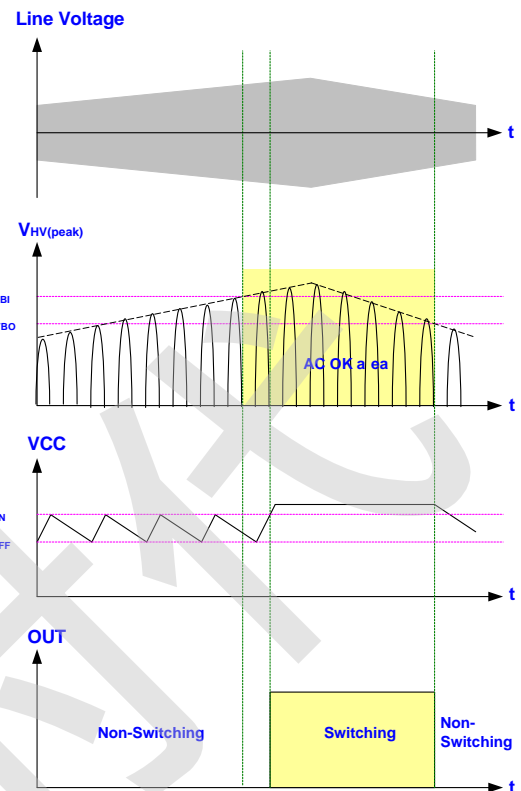

Fig. 11
The LD5763K3 features burn-in/out function on HV pin. As the built-in comparator detects the half wave rectify line voltage condition, it will shut off the controller to prevent from any damage. Fig. 11 shows the operation. When $V_{HV} < HVBO$, the gate output will remain off even when the VCC already reaches UVLO(ON). It therefore forces the VCC hiccup between UVLO(ON) and UVLO(OFF). Unless the line voltage rises over HVBI V_{AC} , the gate output will not start switching even as the next UVLO(ON) is tripped. A hysteresis is implemented to prevent the false-triggering during turn-on and turn-off.